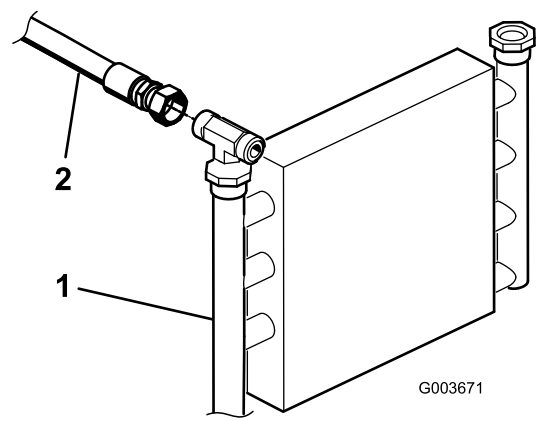
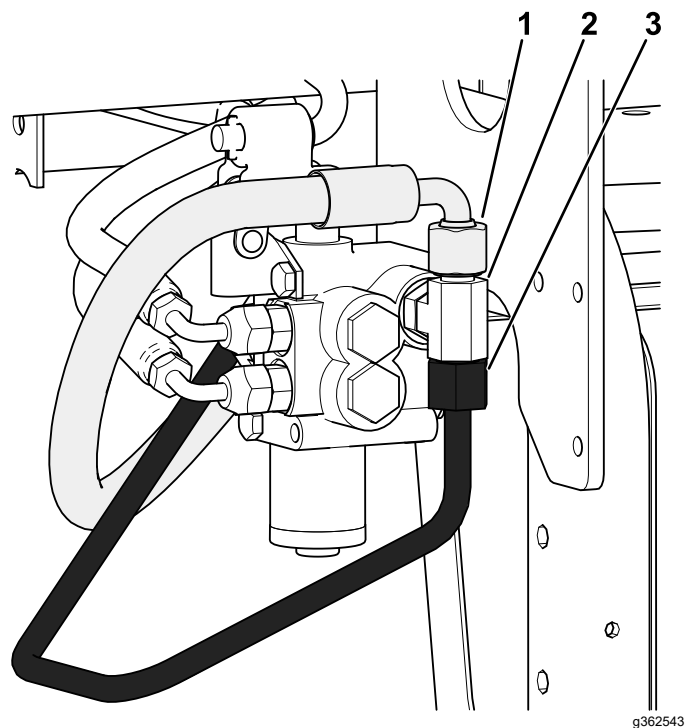

Figure 4
Figure 6
1. Locate the hydraulic tube that goes from the oil cooler to the existing lift valve (Figure 4).
3. Disconnect and remove the hydraulic tube from the oil cooler and the lift valve (Figure 4 and Figure 6).
- C. Disconnect the hydraulic hose (144-1367) from the T-fitting (340-94) as shown in Figure 6.